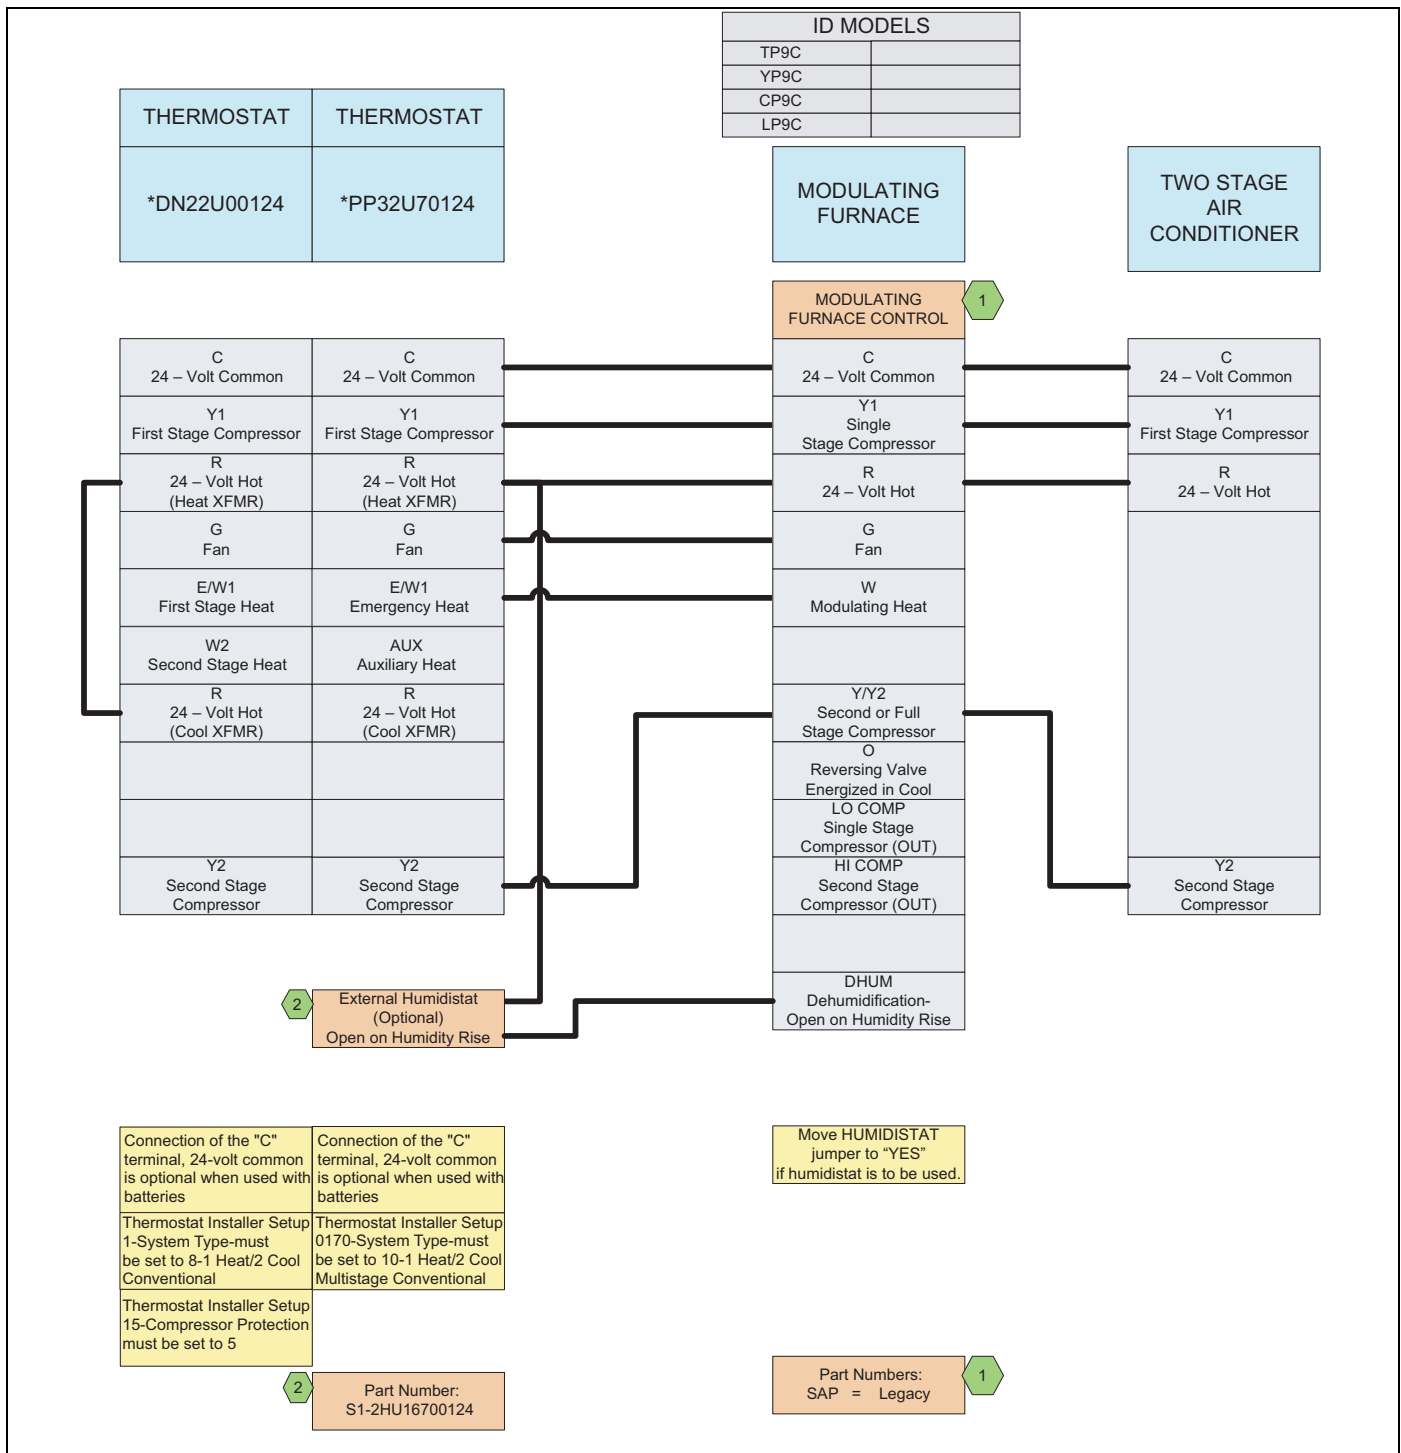

FIGURE 22: Thermostat Chart - Two Stage Air Conditioner – Variable Speed Modulating Furnace
**For Two-Stage A/C** - Use a two-stage thermostat, connect the low voltage wiring as shown in Figure 22.